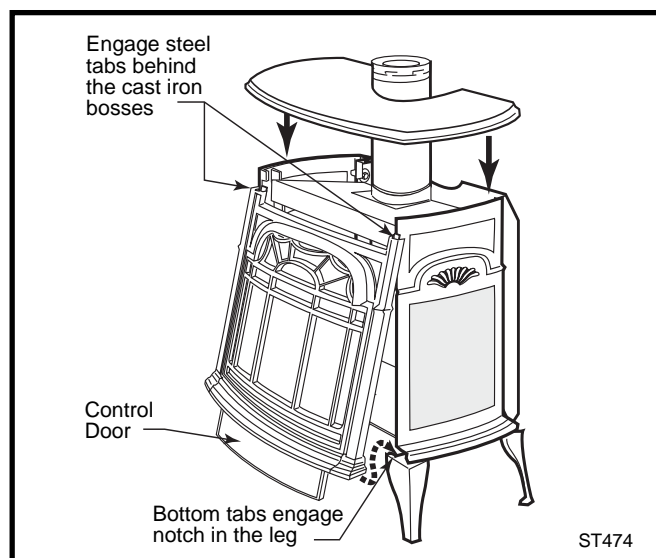

Fig. 49 Install the front plate.
1. Hold the front plate by the window bars and lift it into position, engaging the two steel tabs on the top corners behind the adjacent bosses in the side plates. (Fig. 49) Then seat the Front against the sides so the tabs at the bottom lip engage with the notches in the stove legs.
2. Place the top plate over the sides and front. The upper edges of the side plate should seat into the channel in the underside of the top. (Fig. 49)